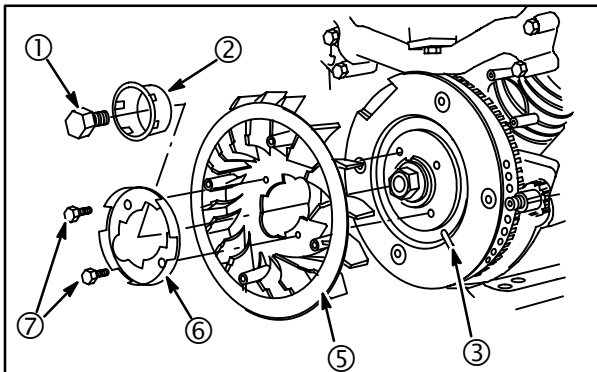

Fig. 18
1. Align boss on back of fan (5) with notch (3) in flywheel, Fig. 18.